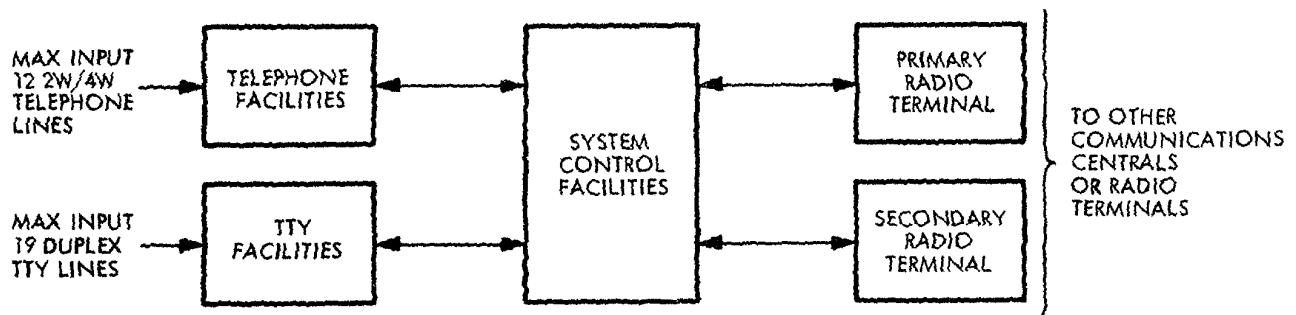

Figure 1-2. Communications Central AN/TSC-38B, simplified system block diagram.
a. Communications Central AN/TSC-38B (fig. 1-2) provides complete radio and wire line communications terminal facilities to both telephone and teletypewriter wire line subscribers. The entire system is contained in Communications Central Group OA-7998/TSC-38B and Communications Support Group OA-8036/TSC-38B. The OA-7998/TSC-38B uses Shelter, Electrical Equipment S-414/TSC-38B to house all the operating equipment necessary for limited system operation. The OA-8036/TSC-38B uses Pallet, Transport-Storage MT3655/TSC-38B to carry the generator sets and antenna equipment required for full system capabilities. The equipment shelter and the pallet are each mounted on Dolly Set, Lift, Transportable Shelter XM689 for ease in movement to and from operating locations. The AN/TSC-38B is air-transportable as a complete system and is totally contained in OA-7998/TSC-38B and OA-8036/TSC-38B.
c. Telephone facilities include a 20-line, common battery (CB), fully automatic switchboard, which is implemented with 12 line terminal units, 12 telephone line intercept control modules, 8 radio line control modules, and a Dial Service Assistance (DSA) position. The automatic switchboard is capable of operating with, and connecting to, telephone subscribers having all recognized line and signaling characteristics, with the exception of sound-powered systems.